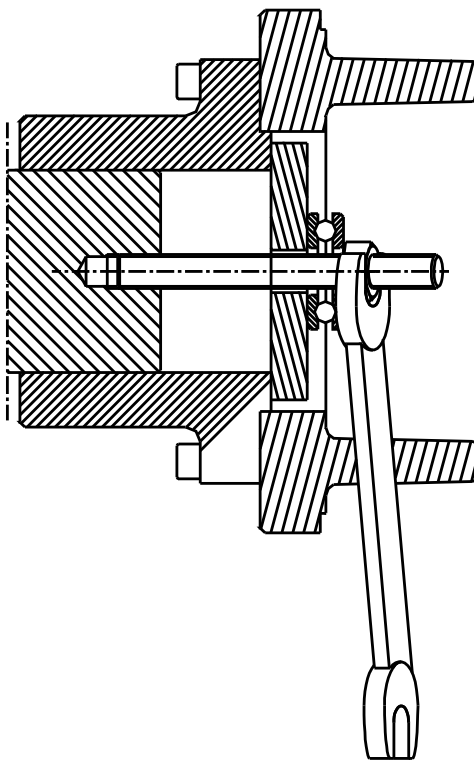

Figure 1: Mounting of flanges
- Hammer blows should be avoided when fitting couplings, in order not to damage the supporting shaft bearings. It is preferable to use the method shown in fig. 1 using a threaded bar and nut, and a metal block or plate as a bridge. A tapped hole is required in the shaft and a thrust bearing will greatly reduce the effort required (See Figure 1: Mounting of flanges).